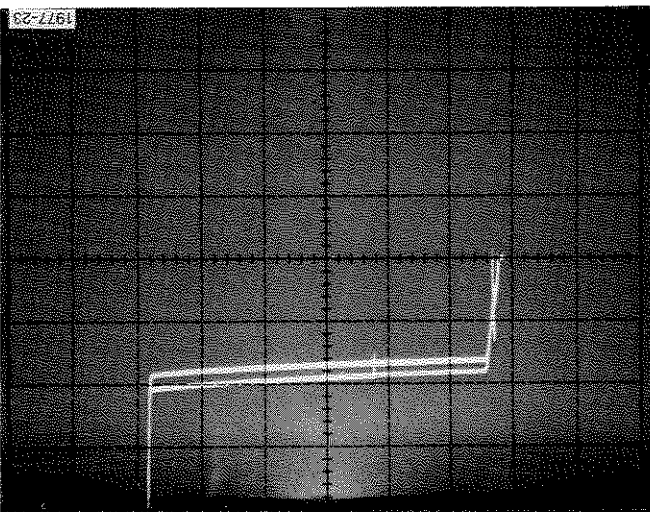

Fig. C-5. Display of input offset current.
b. Check that the input offset (vertical separation between the +Input Bias Current and the -Input Bias Current) is  $\leq 1.25$  divisions, or  $\leq 25$  nA. If greater resolution is needed, change the VERT UNITS/DIV switch to a more sensitive setting and repeat Steps 2, 3, and 4 (see Fig. C-5).
Check that the horizontal excursion of the trace in Step 4 is not less than 2 divisions (+12 V and -12 V) each side of the centerline (see Fig. C-5).